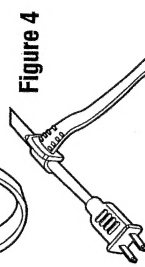

Figure 4
2. Slip loop over electric cord and draw loop tight around cord (Figure 4).